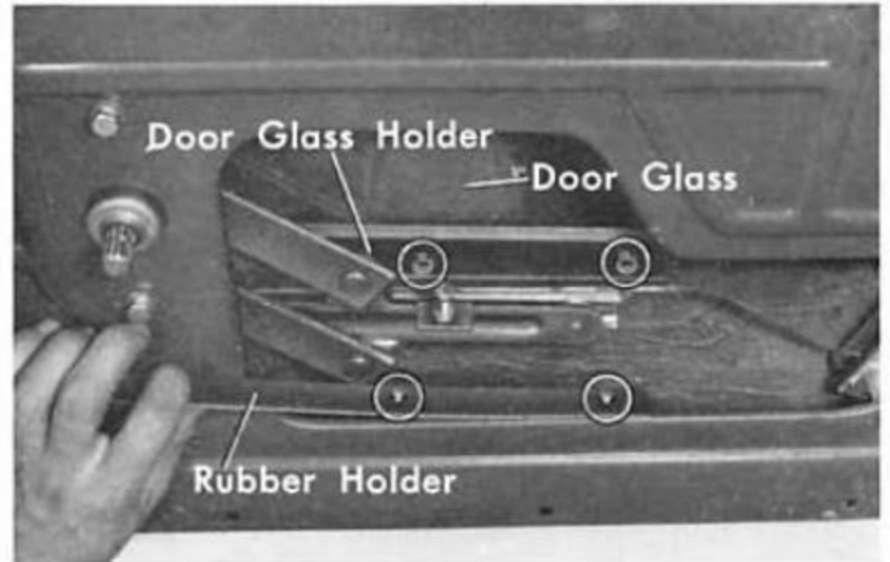

Fig. 17C-2
4. Slide the door glass between the door panel and fasten the door glass to the holder by inserting the bushings of the rubber strip into the holes in the glass and installing the screws (Fig. 17C-2).
5. Install the door by raising the outboard end of the door panel and pulling slightly outward (Fig. 17C-3).